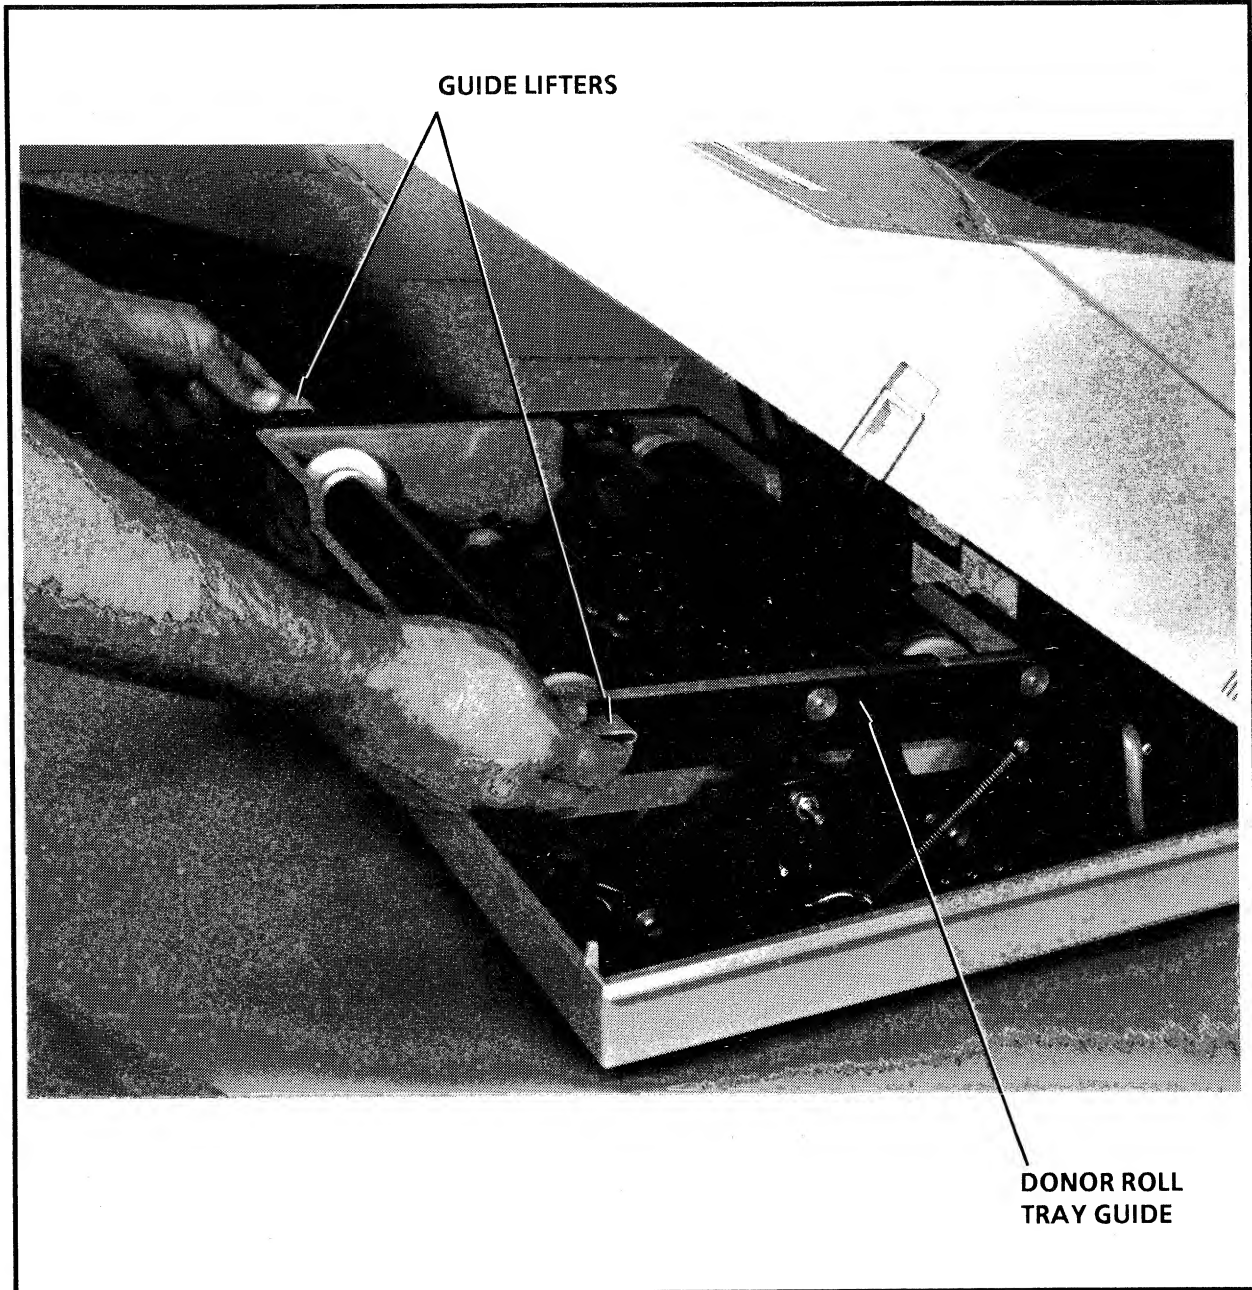

Figure 3-3. Accessing the Donor Roll Tray
3. Standing at the front of the plotter, pull the donor roll tray guide up and then toward you using the guide lifters on each side of the tray guide (Figure 3-3).